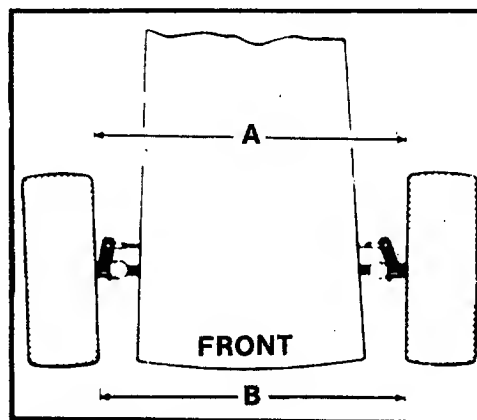

FIGURE 24. TOE-IN
3. Adjust the tie rod assembly for correct toe-in. Dimension "B" should be approximately 1/8" less than dimension "A". See figure 24.